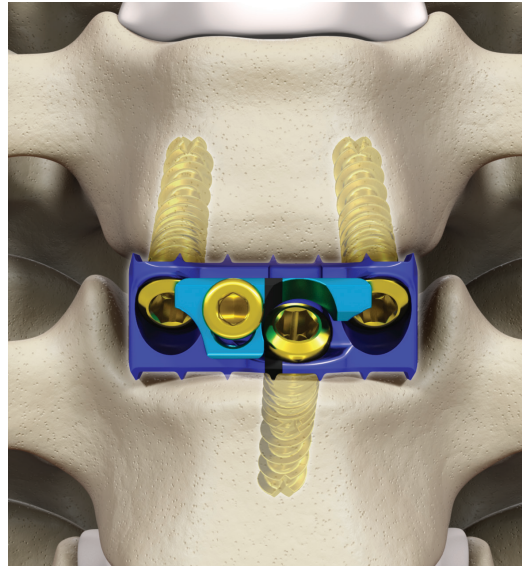

Figure 85
- Turn the driver clockwise. As the screw tightens, the teal locking cap will slide over the screw heads. Turn the torque limiting handle until an audible click is heard when the locking mechanism is tightened to 4 in-lb. The locking mechanism and torque limiting handle will provide visual, audible and tactile confirmation that the locking mechanism is fully secured and the screw heads are partially covered (Figure 85).